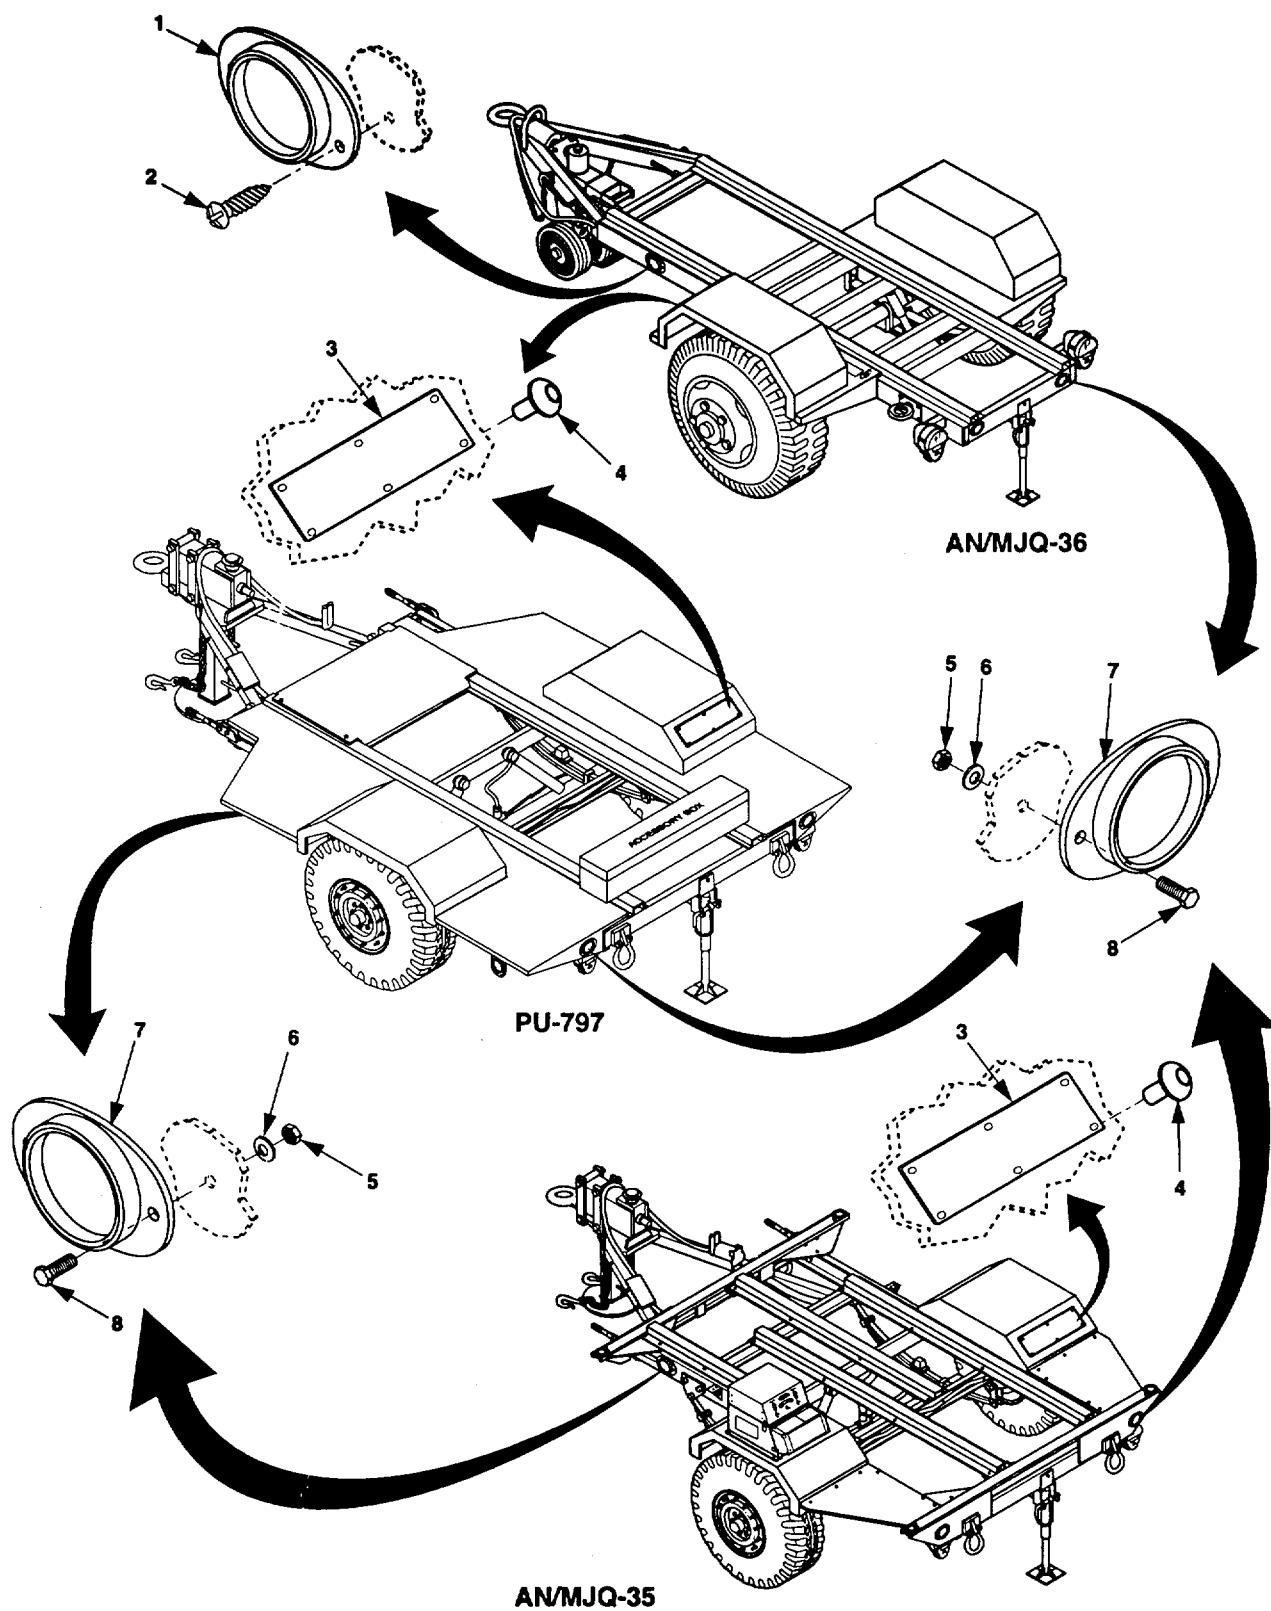

Figure 4-21.1. Identification/Transportation Data Plate and Reflector Replacement.
- a. Drill out rivets (4, figures 4-21.1 and 4-22) and remove data plate (3).
- b. Position data plate (3) on trailer and install rivets (4).